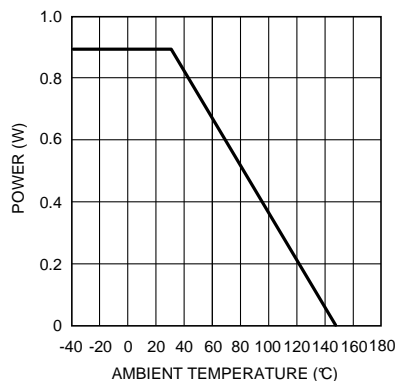

Figure 13. Power Derating Curve
3. Calculate the total RMS power: $P_t = P_{amp} + P_O$. The maximum power that the SOIC package can dissipate at a given temperature is illustrated in Figure 13. The power derating curve for any LMH6718 package can be derived by utilizing the following equation: